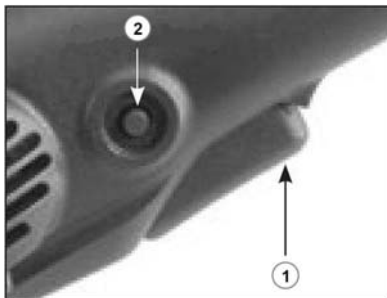

Fig. 7: Lock switch
- Step 5: To lock the on / off switch (1, fig.7) in the depressed position, press the locking knob (2). To switch off, press the release button and release.